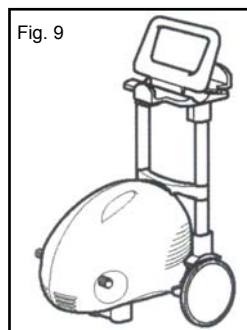

Fig. 9
9. When the unit is finally assembled, it should look like the illustration below. (Fig. 9)